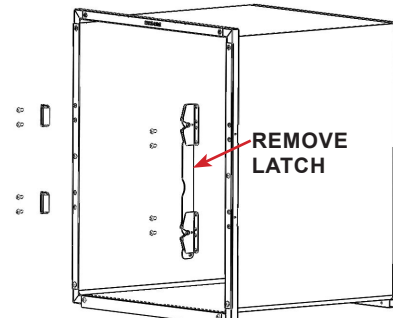

FIGURE 3.4 - Latch Assembly Removal
**STEP 3:** Remove the latch assembly from the right side of the cage frame by removing the screws. See FIGURE 3.4